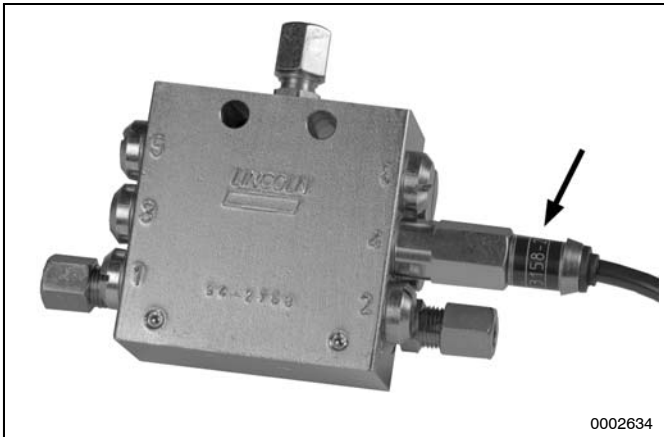

Fig. 22 Divider block SSV 6 with piston detector
- If there is no switching off signal from the piston detector (fig. 22) to the control p.c.b. within 30 minutes a fault signal will occur (see paragraph "Display of the membrane keypad", page 18).